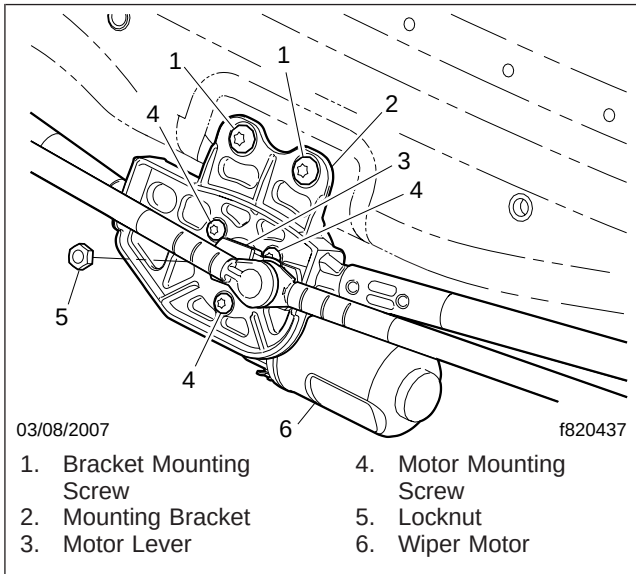

Fig. 7, Wiper Motor Installation
12. Remove the nut that attaches the motor lever to the motor shaft; see Fig. 7.
1. Attach the wiper motor to the mounting bracket on the linkage with three screws; see Fig. 7. Tighten the screws 8 to 11 lbf·ft (11 to 15 N·m).
2. With the linkage in park position, as shown in Fig. 7, install the nut that attaches the motor lever to the motor shaft. Tighten the nut 15 to 18 lbf·ft (20 to 24 N·m).